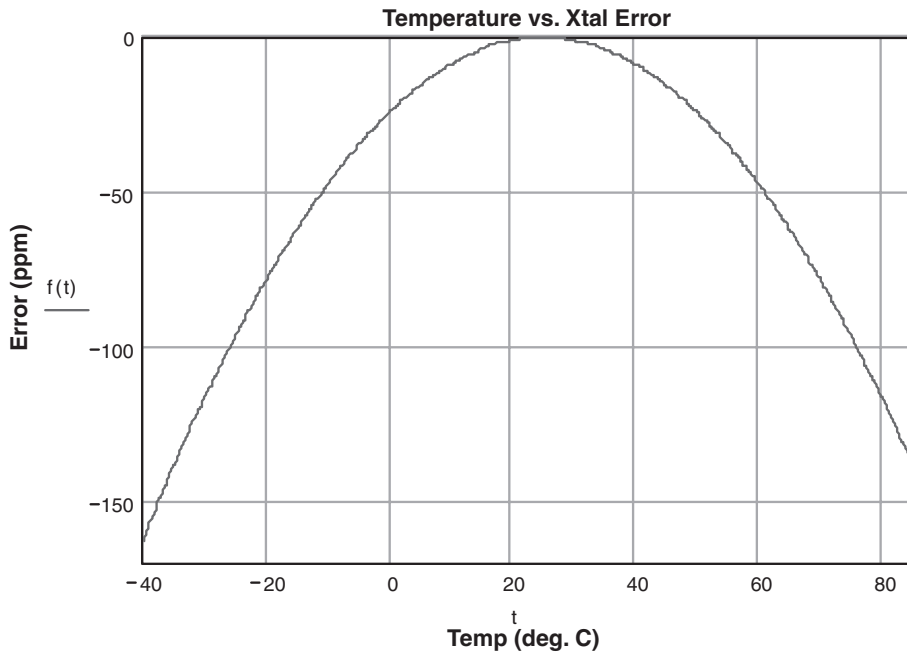

Figure 4.9: Sample Crystal Error Curve
- *Temperature Tolerance.* This is usually the most significant component of error, and varies widely from one crystal to another. It is often specified in either ppm over a specified temperature range, or in ppm/ $^{\circ}\text{C}$. Some manufacturers will simply give a graph or equation. (An example graph is given in Figure 4.9.)